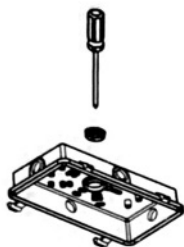

Figure 3-2
2. Loosen the 3/4 plug on the driver box cover by screwdriver; Figure 3-2